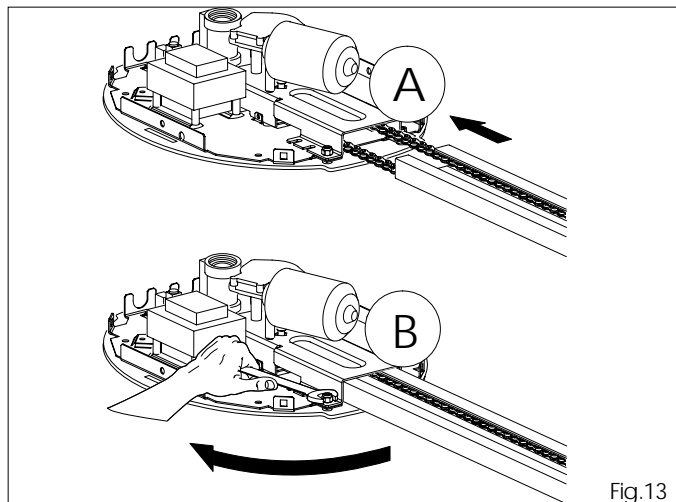

Fig.13
5.8 Re-position the motor unit and insert the longitudinal member – as shown in figure 13 (ref. A) - up to the stop.
5.9 Tighten the motor unit with an appropriate wrench (fig. 13 ref.B).